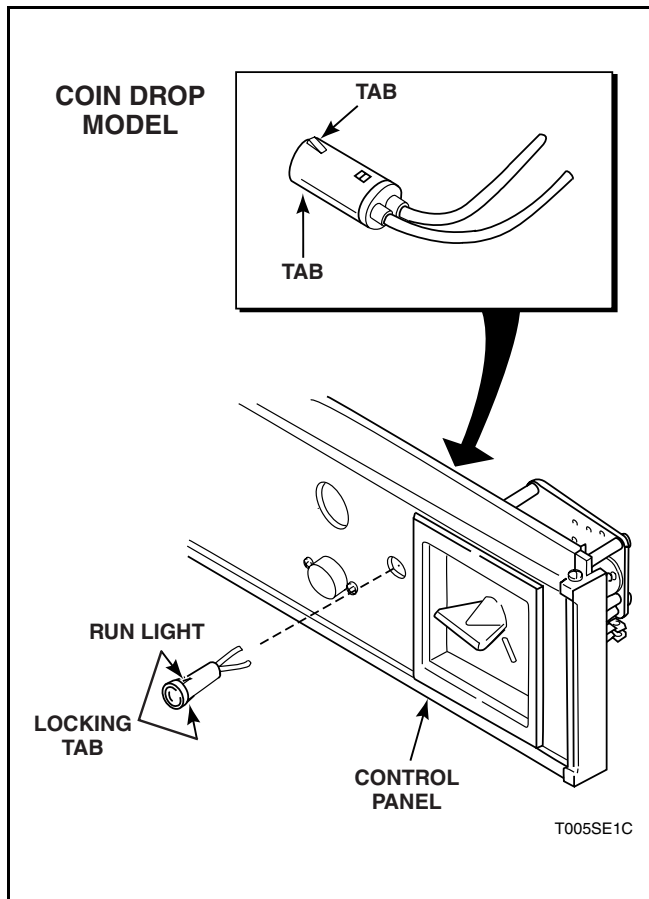
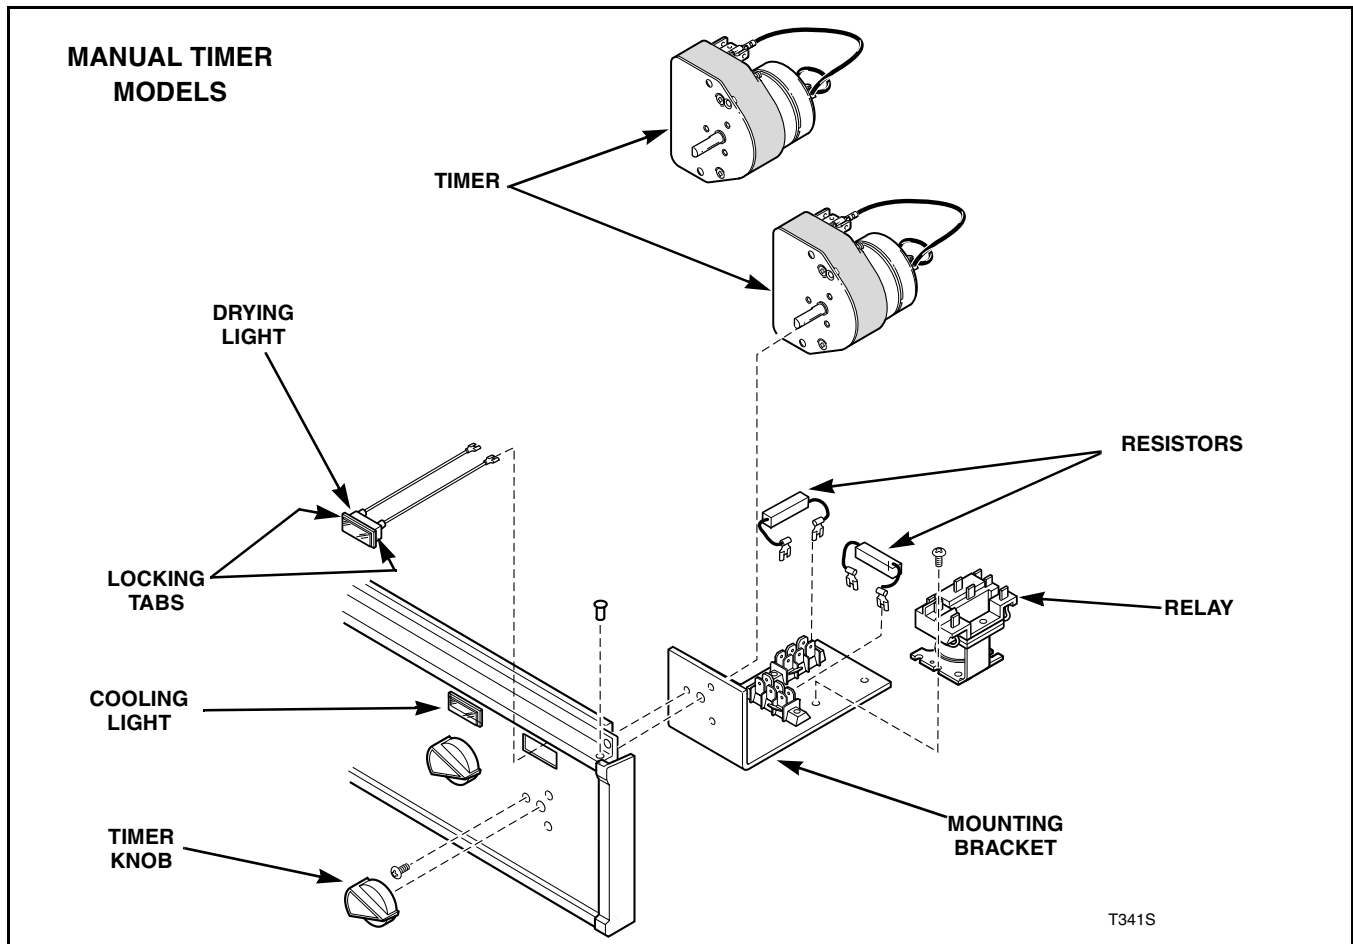

Figure 2
Figure 3
- c. Compress locking tabs on sides of light and push light out through front of control panel. Refer to *Figure 2* for Coin Drop Models or *Figure 3* for Manual Timer Models.
- b. Remove two screws holding relay to mounting bracket. Refer to *Figure 3*.
- b. Disconnect resistor leads. Refer to *Figure 3*.
- b. Pull timer knob off timer shaft. Refer to *Figure 3*.
IMPORTANT: Be sure barrier is installed in proper position when reinstalling drying timer. Refer to *Figure 3*.
- e. Remove the four mounting screws holding the electronic control to the bracket. Refer to *Figure 3*.